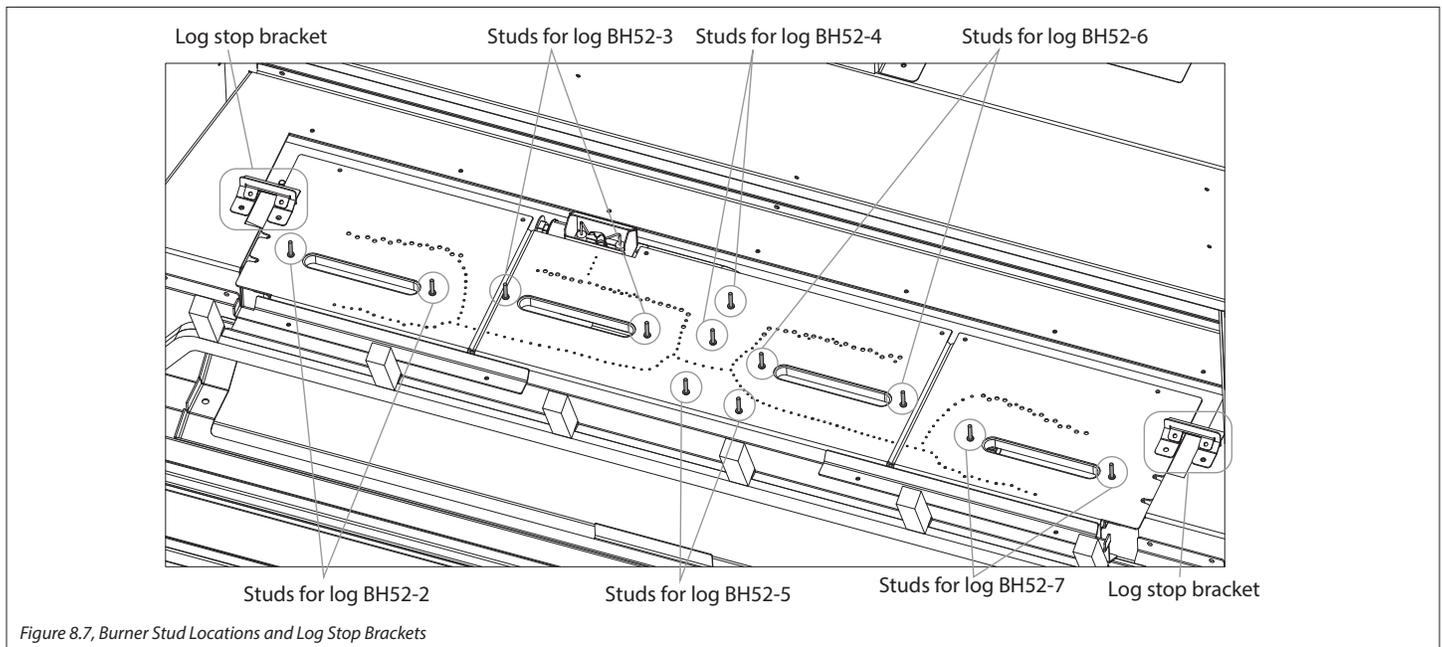
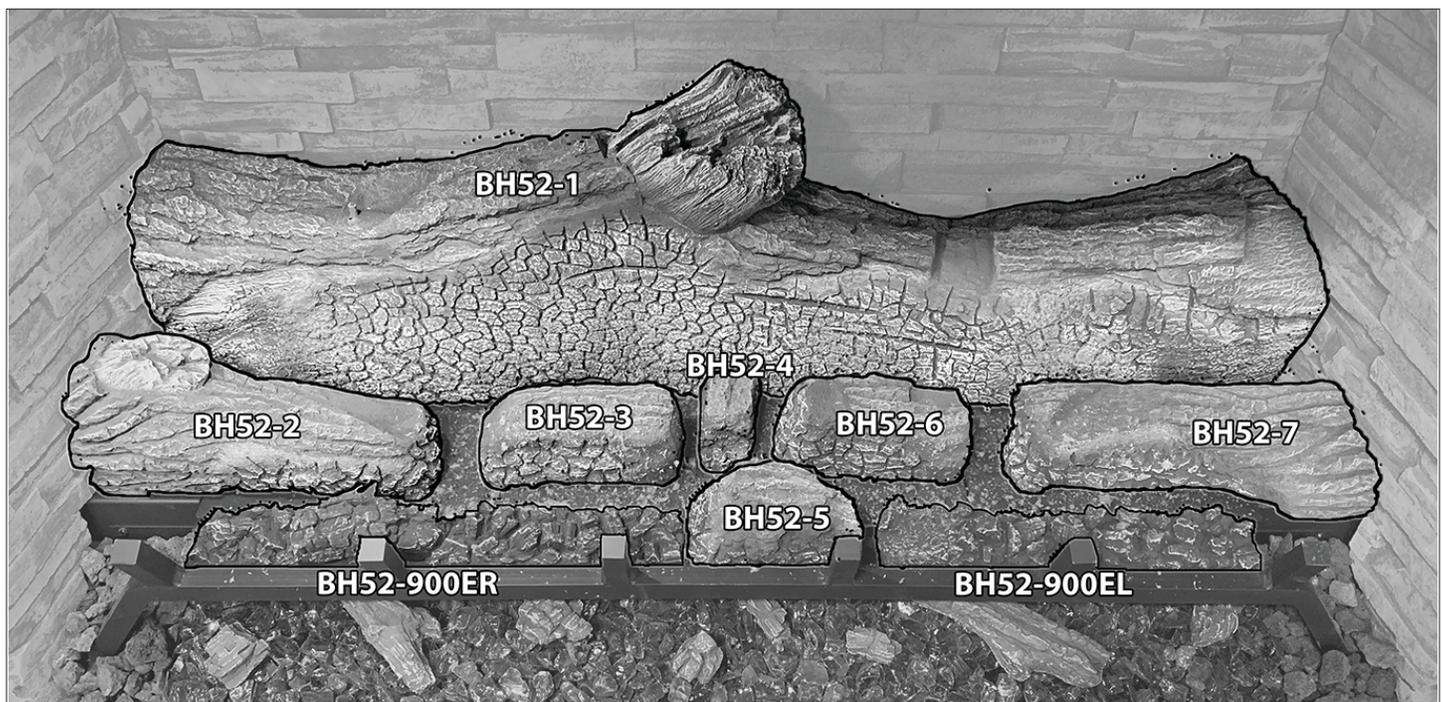

Figure 8.7, Burner Stud Locations and Log Stop Brackets
Figure 8.8, Base Logs
1. Using both hands, place log BH52-1 at the rear of the firebox, as shown in Figure 8.8. Slide the log forward until it rests against the log stop bracket flanges (Figure 8.7).
3. Align the holes in the bottom of logs BH52-2 through BH52-7 with the corresponding studs located on the burners. See Figure 8.7 for burner stud locations.
4. Set logs BH52-2 through BH52-7 into position as shown in Figure 8.8.
5. Place the left and right ember panels on their respective sides of log BH52-5, as shown in Figure 8.8. The right ember panel has a flat notch on the side closest to log BH52-5.
Use Figures 8.8, 8.9, and 8.10 together for the following instructions for proper log placement.